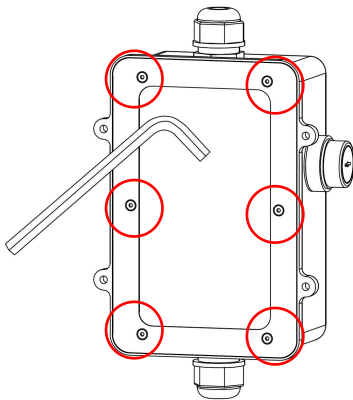

Fig 3
1) As shown in Fig 3, remove the rear cover bolts by using a 2.5# hex key, and connect the couplings between the main power supply and the dust source equipment as shown in Fig 4;